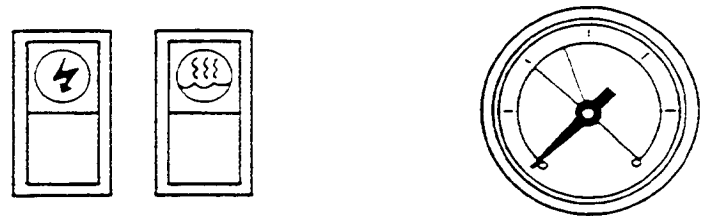
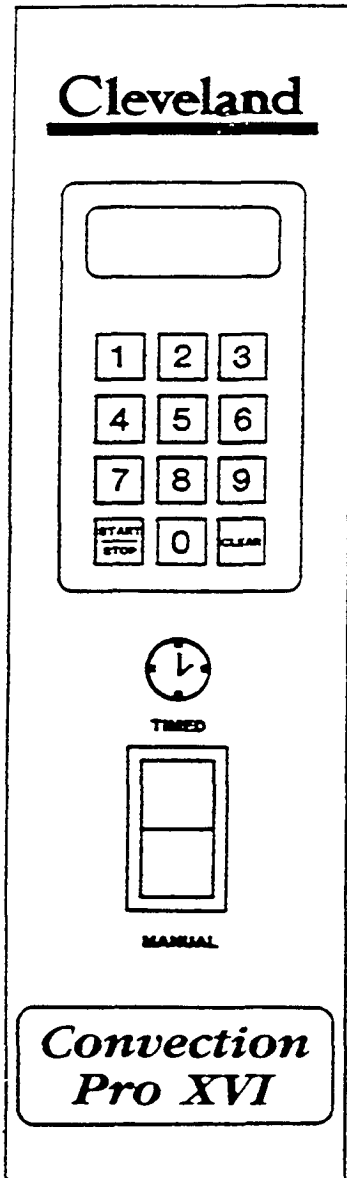
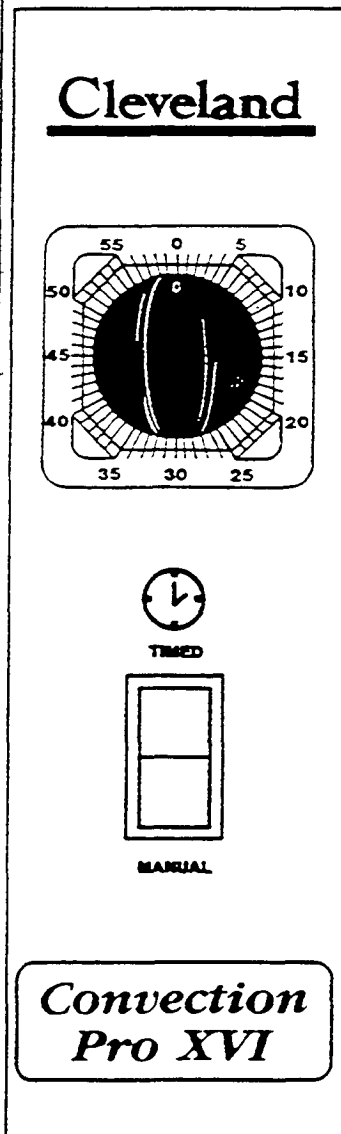

Figure 1. Steam Generator Controls
Figure 2. Key Pad Control Panel
Figure 3. Dial Timer Control Panel
There are two steam generator control arrangements and two steamer compartment control panels available for Cleveland Range Convection Pro XVI steamers. The steam generator controls are illustrated in Figure 1. The steamer compartment control panels are illustrated in Figures 2 and 3. Compare these figures with the equipment supplied, and identify which control and panel combinations apply.
The steam generator controls are located on the front face of the steamer base unit. The switches are to the left of the pressure gage, as illustrated in Figure 1. Most Cleveland Range Convection Pro XVI steamers have a steam generator built into the base unit which supplies steam to the cooking compartments. However, an external steam supply may also be used. Units with a built-in boiler have both the POWER rocker switch and the STEAM momentary switch next to the pressure gage. Units with an external steam supply have the POWER rocker switch only. They do not have the STEAM momentary switch.
Figure 2 illustrates the standard electronic controls: the Key Pad Control Panel. This panel has a rocker switch, a key pad, and a digital timer. Figure 3 illustrates the optional electro-mechanical controls: the Dial Timer Control Panel. This panel has a rocker switch and dial timer. Steamer functions are the same for both the standard and optional panel configurations. Operating details are slightly different especially when setting the automatic operating time. For clarity, two sets of instructions are provided for cooking operations.
- a. Press the ON end of the POWER on-off rocker switch located next to the steam pressure gage (Figure 1). The red indicator light in the POWER rocker switch turns on and the steam generator begins to fill with water. This takes about 5 minutes.
The electronic key pad control panel is illustrated in Figure 2.
The dial timer control panel is illustrated in Figure 3.